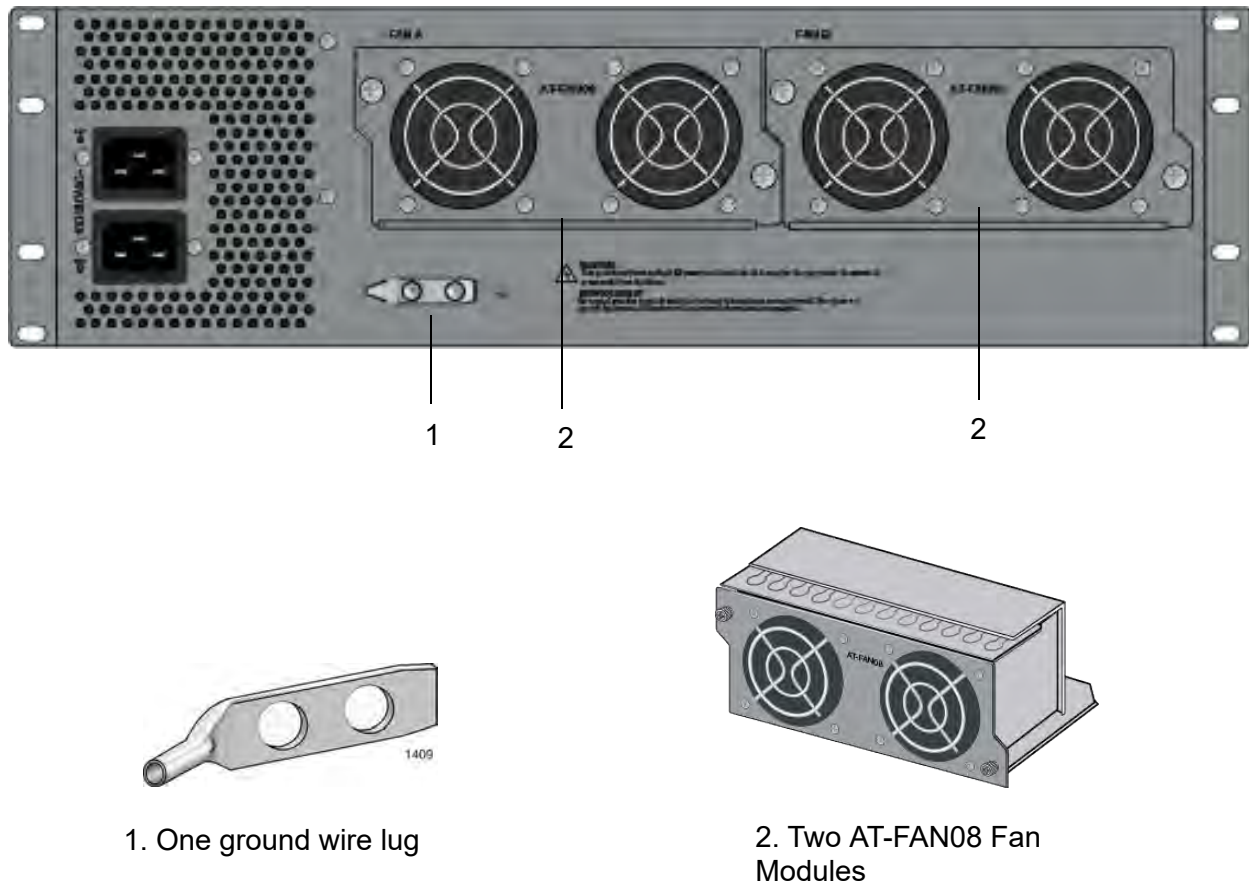

Figure 20. Pre-installed Items on the Rear Panel of the Switch
7. Check the rear panel for the pre-installed components in Figure 20.